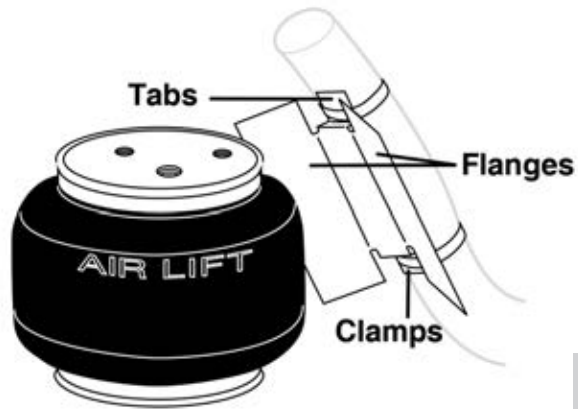

fig. 2
13. Installation of this kit may require an exhaust heat shield (Figure 2). The heat shield is attached to the exhaust pipe with the flanges bent toward the air bellows. The shield may be trimmed or bent to prevent contact with the bellows or hardware during suspension travel. There should be a minimum of a “thumbs width” of space between the exhaust pipe, the shield and the bellows.